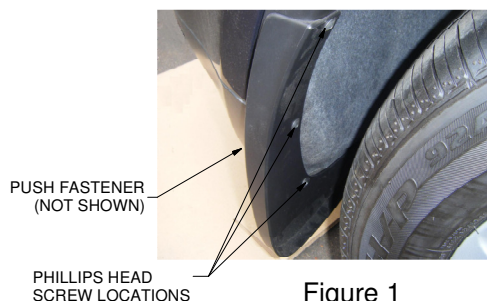

Figure 1
1. Remove the rear splash guards from driver and passenger side of vehicle. Keep the splash guards and fasteners for reinstallation in Step 13. (See Figure 1)